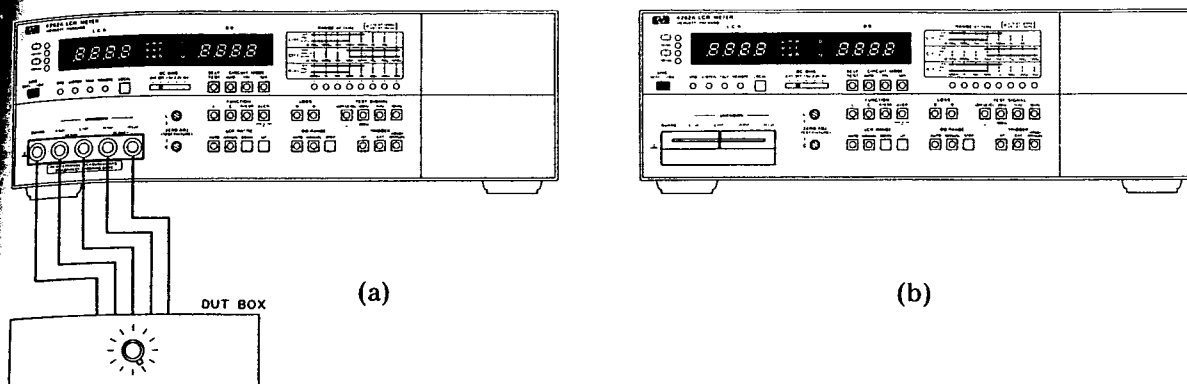

Figure 5-11. Zero Detector &amp; APAO Adjustments.
- e. Connect Test Leads (HP P/N: 16361-61605) between 4262A UNKNOWN terminals and 16361A DUT Box as shown in Figure 5-11 (a).
- b. Attach HP 16061A Test Fixture to 4262A UNKNOWN terminals as shown in Figure 5-11 (b).